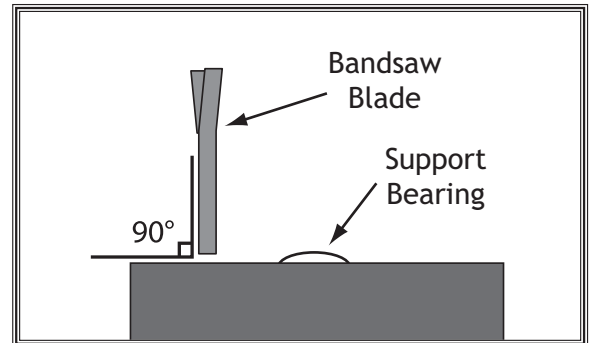

Figure 25. Blade should be perpendicular (90°) to the face of the support bearing.
6. Look at the face of the support bearing and rotate the blade guide assembly side-to-side, until the blade is perpendicular with the face of the support bearing, as illustrated in **Figure 25**.